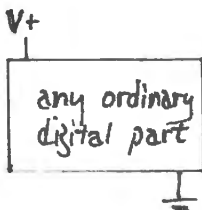

Figure 14L.1
3. Power all your circuits from +5V and ground only – until we reach the CPLDs¹ or PALs,² some of which are powered with 3.3V instead. This applies equally to CMOS (in its traditional 5V form³) and to TTL. Power and ground pins on ordinary digital parts (not complex ICs like PALs and microcontrollers) are the diagonally-opposite corner pins, as in Fig. 14L.1.